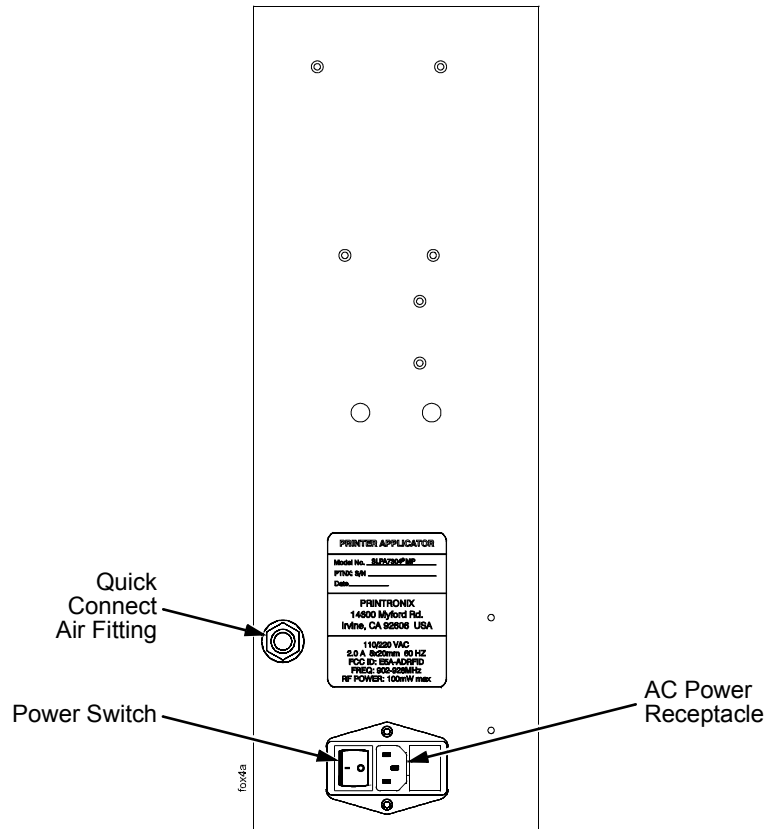

Figure 5. Power Panel
10. Connect the opposite end of the air hose to the quick connect air fitting on the power panel. (Figure 5.)
13. Plug the AC power cord into the AC power receptacle. (Figure 5.)